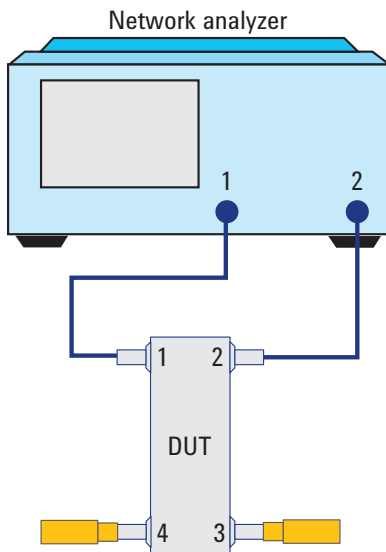

Figure 13. Equipment setup using network analyzer with coupler
2. Calibrate the network analyzer with full 2-port calibration with setup based on network analyzer model being used. The test setup is shown in Figure 13.
4. Connect the device under test (DUT) to the network analyzer per Figure 13. The unused port to be terminated with a 50 Ω termination.